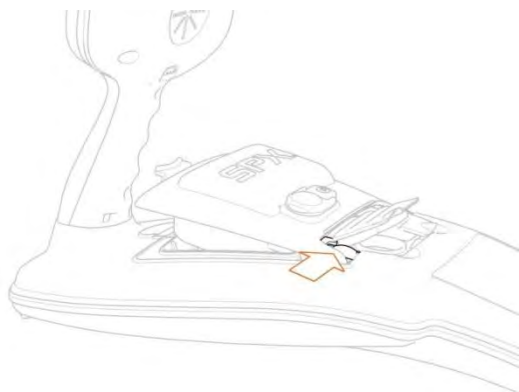

Figure 3.6 Pressing retaining latch
- 4 Press the battery retaining latch inwards (fig 3.6)